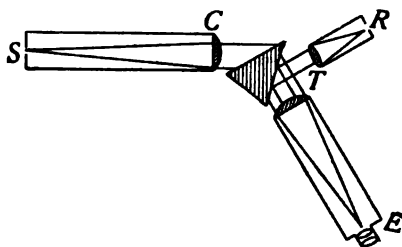

FIG. 407.—Diagram of a spectroscope.
**407. The Spectroscope and Its Uses.**—The spectroscope (Fig. 406) is an instrument for observing spectra. It consists of a prism, a slit, and a convex lens *T* for focusing an image of the slit accurately upon a screen (Fig. 407) where the spectrum is observed through the eyepiece *E*.